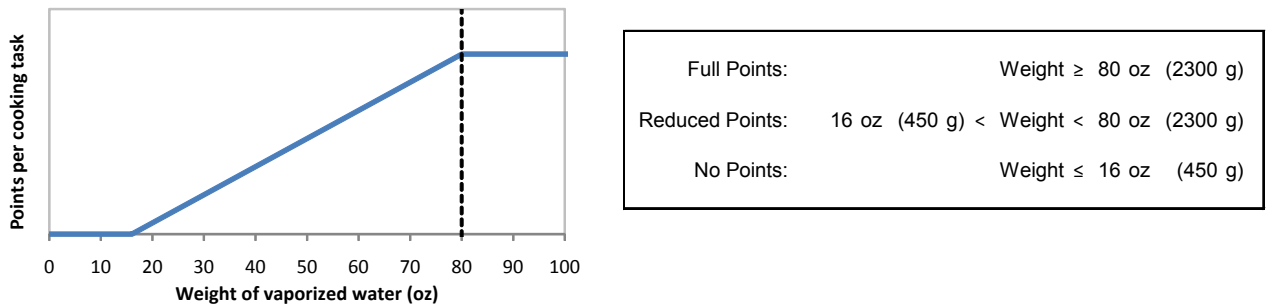

Figure 10: Scoring function for the Cooking subcontest
- a. Reduced points are earned if between 1.000 lb (16.00 oz or 0.454 kg) and 5.000 lb (80.00 oz or 2.268 kg) are vaporized. Reduced point values are scaled linearly, as shown in Figure 10.